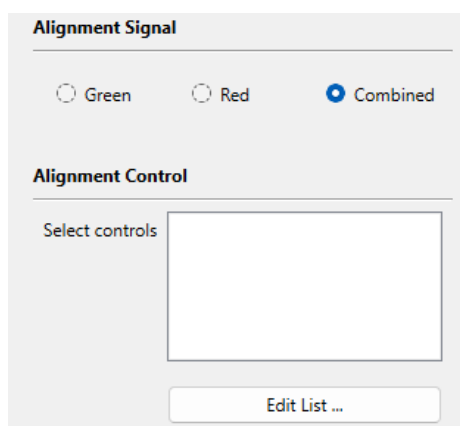
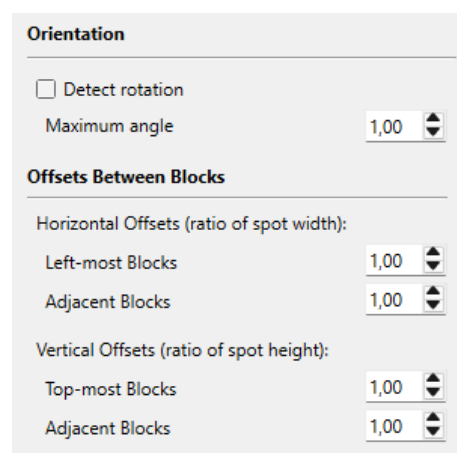

Figure 19: Alignment Options - Signal &amp; Controls.
Figure 20: Alignment Options – Orientation &amp; Offsets Between Blocks.
Due to variations in array and spot configurations, the automatic function with the default options may not align the grids with the image precisely at first. You can fine-tune the alignment function by clicking the *Configurations > Array Alignment Options* menu. The setting dialogs are shown in Figure 19 and Figure 20.
This setting (Figure 19, the *Alignment Signal* section) is useful for dual-color images. It allows you to specify which channel (*Red* or *Green*) to use for array alignment. The default option is *Combined*, where the software uses the strongest signal from both channels. For single-color analysis, the alignment uses the signal from the loaded channel.
Enable this option (Figure 20, the *Orientation* section) to detect if the slide image is rotated and adjust the alignment accordingly.
If the printed blocks have significant offsets from their planned positions, you might need to adjust the offsets between blocks (see Figure 20, the *Offset Between Blocks* section).
- It does not use the orientation or offset parameters - these apply only to GAL arrays (see Figure 20).